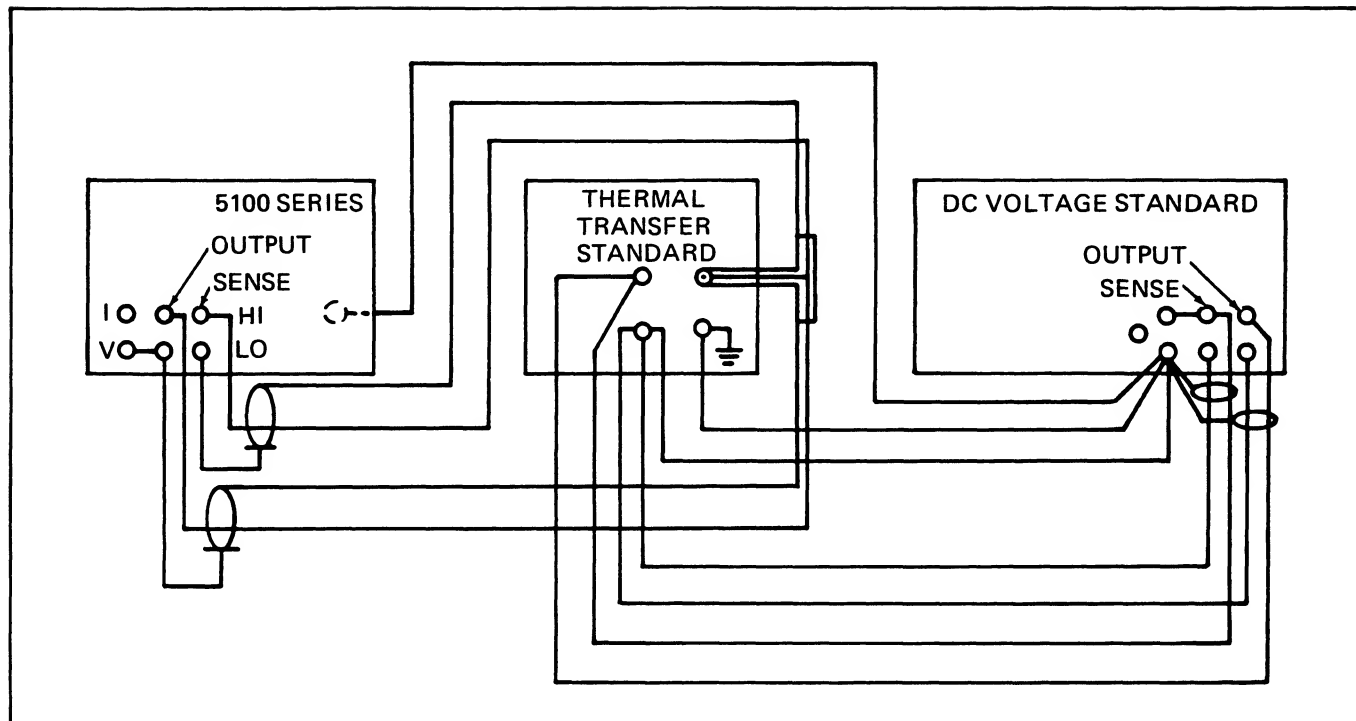

Figure 4-7. AC Voltage Tests
2. Connect the equipment as shown in Figure 4-7.